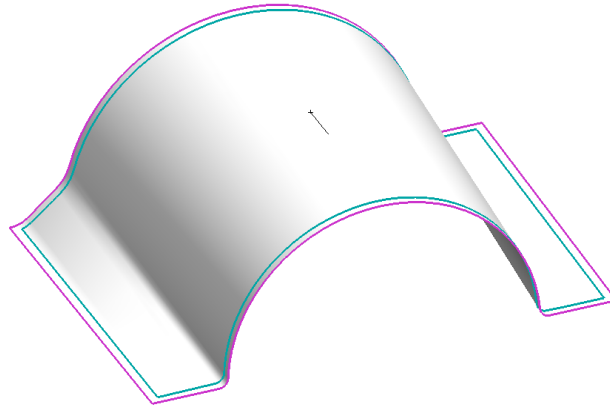

Figure 3–2
1. Open **INTRO\_PLY\_A.prt**. The model displays as shown in Figure 3–2.